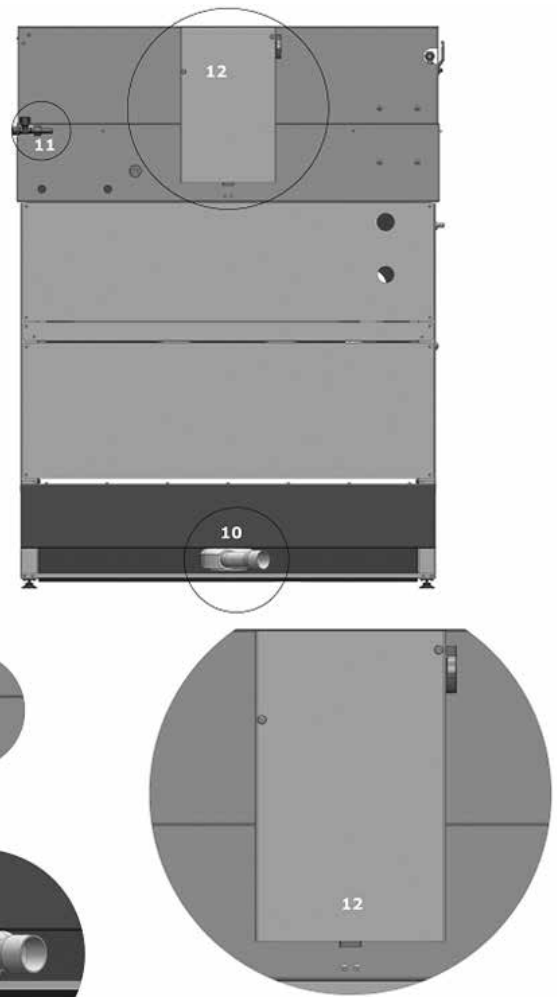

Fig. 3
For higher drains, please also order wastewater pump 61 70 30 and connect it to the intended connection at the rear of the system (centre of system rear panel, in the distribution box: insert the pump cable into the distribution box and connect. (12) Fig. 3.